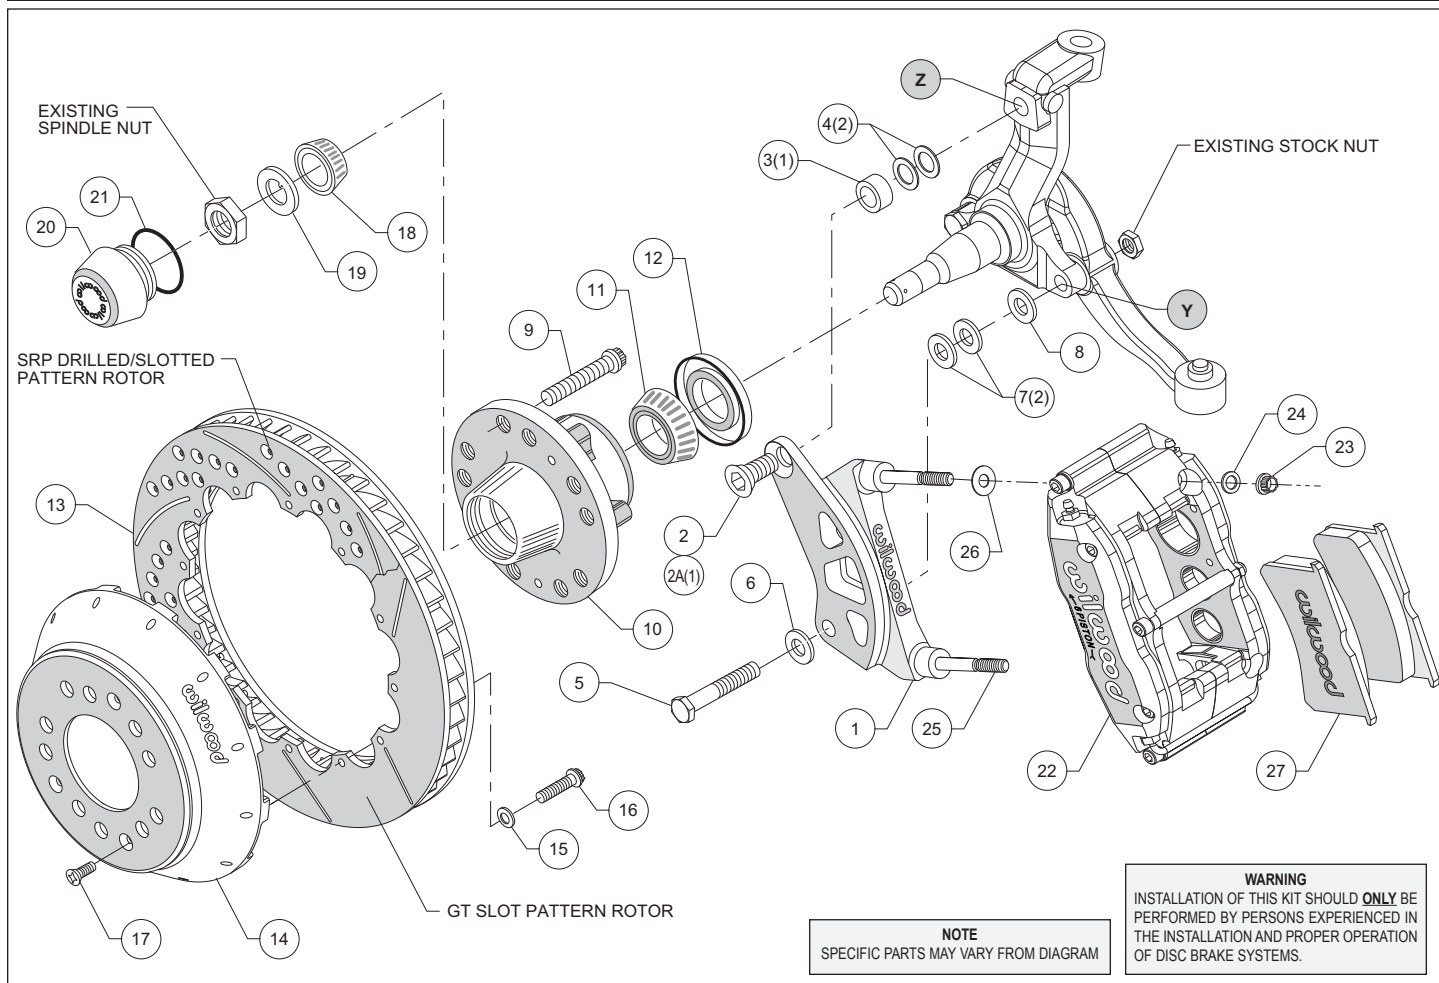
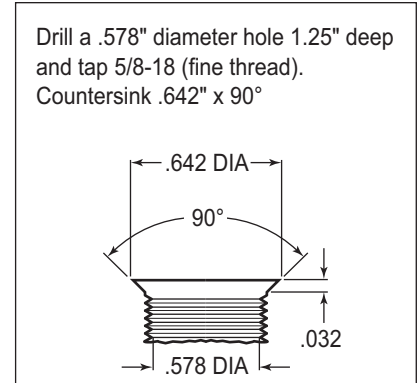

Figure 1. Typical Installation Configuration
Figure 3. Drill and Tap Detail
•**NOTE:** 1964-66 spindles may require the following modifications (reference figure 1 and 3): Top anchor pin hole (Z) must be drilled and tapped to the dimensions as outlined in figure 3. Bottom rear steering arm bolt hole (Y) in the spindle and steering arm must be enlarged to .50" by drilling. A 1/2-20 backing nut (not supplied in kit) will need to be acquired to torque bracket / steering arm bolt (supplied in kit).
•**Disc Application:** The caliper mount bracket assembly (1) should be installed first with clean, dry threads on the mounting bolts. Mount bracket (1) to face of dust plate mount pad of spindle using the bottom bolt (5), through washer (6) while positioning washer (7, Heidts spindle kit only) and shim washer (8) "if needed for bracket flatness" between bracket and spindle face, finger tighten only. Install the upper bolt (2A) with spacer (3) and flat washer (4, Heidts spindle kit only), ensuring flatness positioned between bracket and top hole of spindle face. Inspect for interference from casting irregularities, machining ridges, burrs, etc. If everything fits correctly, then remove the mounting bolts (2A and 5) and coat threads with red *Loctite*® 271 and reinstall. Torque bolt (2A) to 120 ft-lb. Torque bolt (5) to 77 ft-lb.
•**Drum Application:** The caliper mount bracket assembly (1) should be installed first with clean, dry threads on the mounting bolts. Mount bracket (1) to face of dust plate mount pad of spindle using the bottom bolt (5), through washer (6) while positioning washer (8) between bracket and spindle face, finger tighten only. Install the upper bolt (2). Inspect for interference from casting irregularities, machining ridges, burrs, etc. If everything fits correctly, then remove the mounting bolts (2 and 5) and coat threads with red *Loctite*® 271 and reinstall. Torque bolt (2) to 120 ft-lb. Torque bolt (5) to 77 ft-lb.
•Install wheel studs (9) into the hub (10). Torque to 77 ft-lb. **NOTE:** There are two five lug patterns in the hub (5 x 4.50 and 5 x 4.75). Make sure of the correct hole pattern for the correct wheel application before installing studs into hub.
•Pack the large inner bearing cone (11) with high temperature disc brake bearing grease (available from your local auto parts store) and install into the backside of the hub (10).
•Install the grease seal (12) by pressing into the backside of the hub (10).